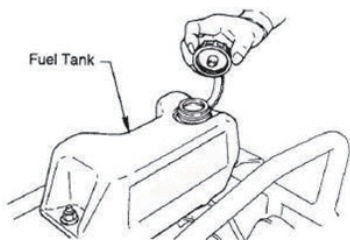

Fig 3
1. Fill the fuel tank [Fig 3] with unleaded gasoline. At the same time, check the engine oil and make it a habit to replenish it often.